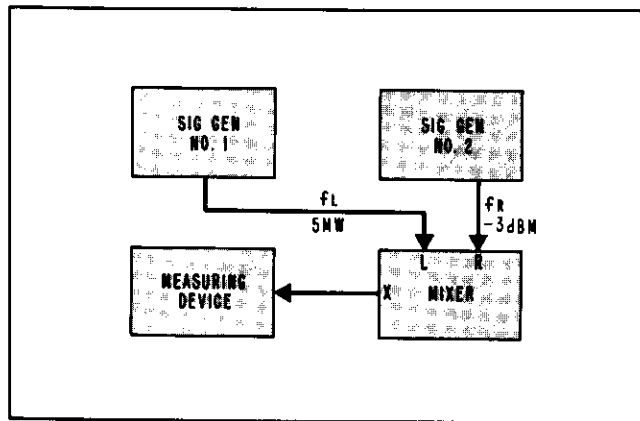

Figure 10. Test Setup-Conversion Loss
- 2) Set output level to be as shown in Figure 10 using RF Millivoltmeter (Model 411A or equivalent) terminated with 50-ohm resistive load.
b. Make connections as shown in Figure 10.